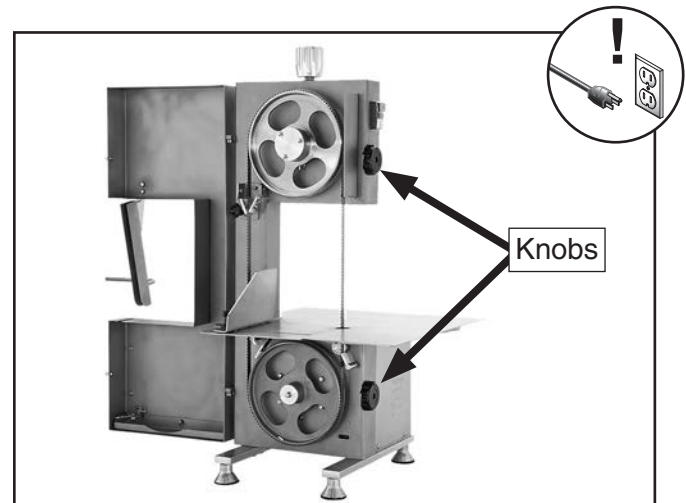

Figure 6. Wheel cover open to expose wheels.
2. Rotate both wheel cover knobs clockwise to open wheel cover and expose wheels (see **Figure 6**).